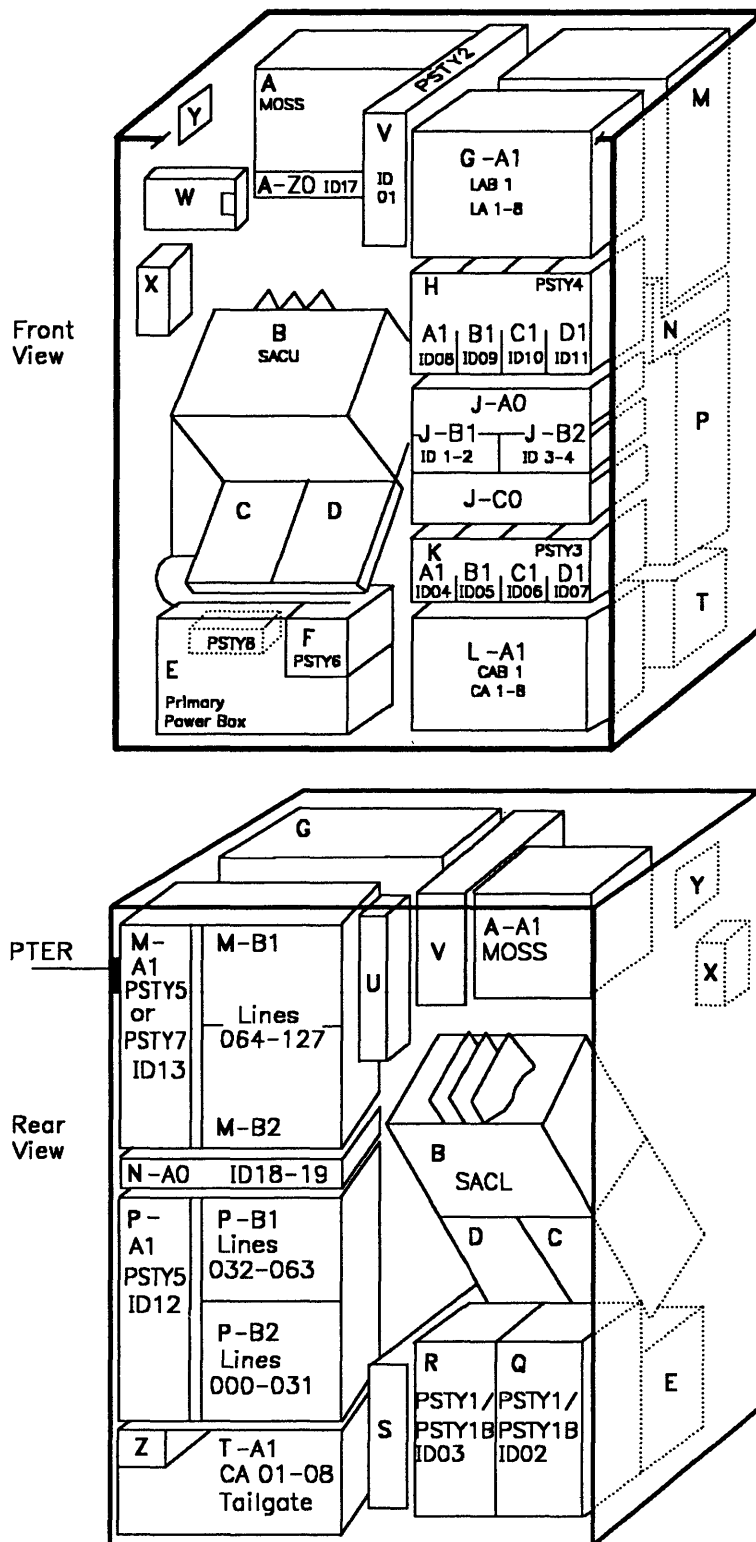

Figure 5-160. Frame 01 Front and Rear View
5. Refer to Figure 5-160 on page 5-161 to locate the SAC boards (SACU & SACL).